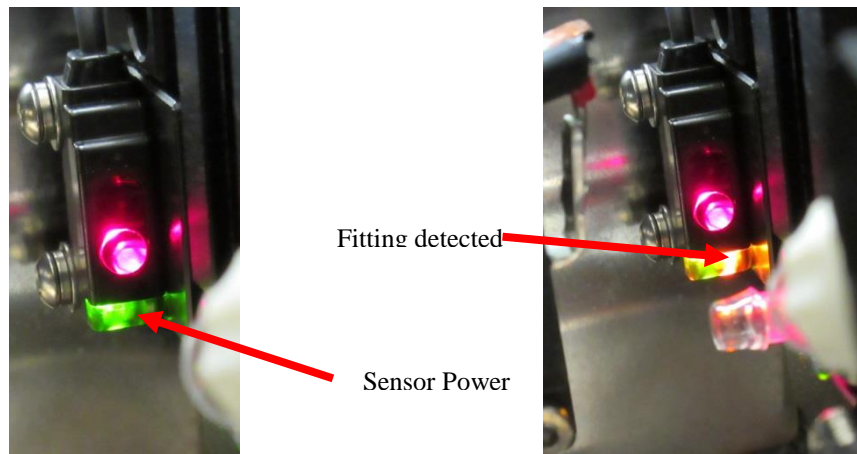

Figure 2.7.1
- When no fitting is present or the fitting is not properly aligned, only the green ‘power on’ LED will be on and amber sensor LED will be off. **Figure 2.7.1**